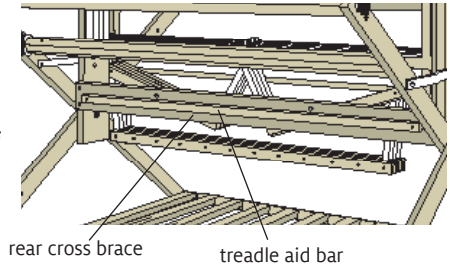

FIGURE 3 - REAR CROSS BRACE AND TREADLE AID BAR
1. Locate the rear cross brace at the back of the loom (figure 3).